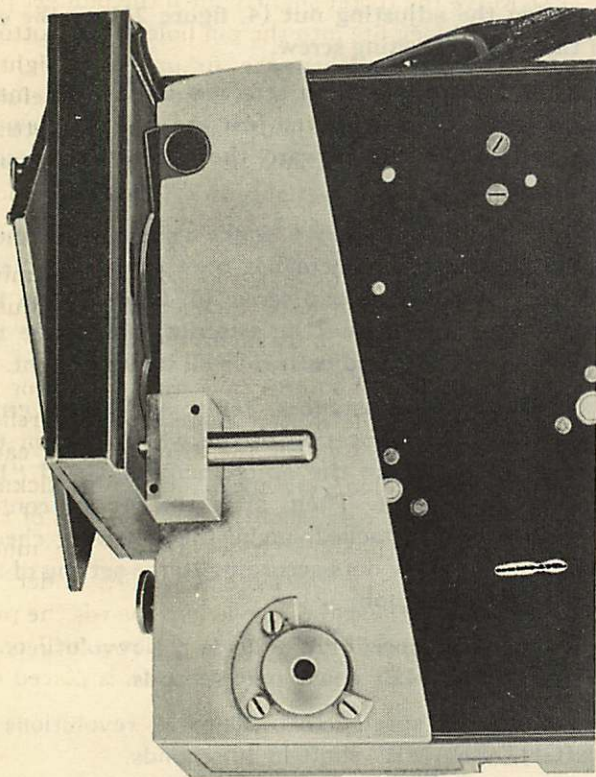

Figure 28—Front Alignment Tool in Position
(1) Place the turret aligning tool (No. 45) on the top mechanism plate so that the bushing on the fixture fits over the mechanism drive coupling, and the fixture block with pin rests against the back of the front complete as shown in figure 28. Be sure the top end of the fixture plate is snug against the top edge of the front.
(2) Move the turret slightly until the plunger pin in the fixture block fits into the pin hole in the bottom edge of the turret. With the fixture held tightly against the turret in this exact position, carefully secure the four screws without disturbing the setting of the assembly as determined by the fixture. Be sure the attaching screws are tightened. If they are not, the focus of the camera will be affected.
(3) Run the camera at speed "8" to determine the clearance of the shutter in the front. Make adjustments of the blades to obtain silent operation.
(4) Open the reflex finder and start the motor to see that the pin on the shutter blade closes the reflex finder. This pin may touch the trip lever at each revolution of the blade making a noticeable ticking sound. If this is the case, slightly bend the end of the lever away from the pin. Or if there is too much clearance the pin may not close the reflex finder, in which case, bend the end of the lever towards the pin. Adjustment of this reflex finder trip lever will only be necessary when a new front complete is placed on the mechanism.